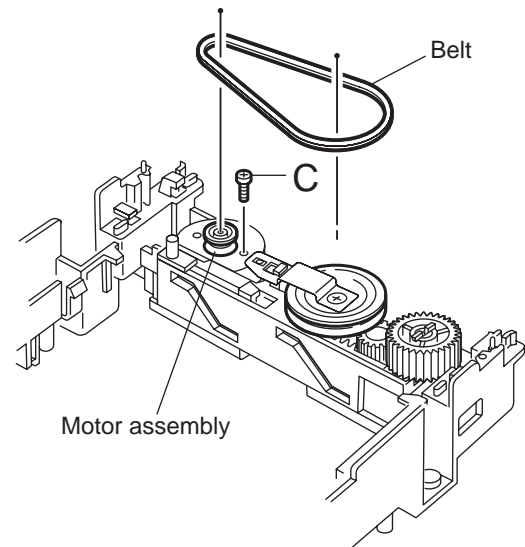

Fig.2-14
2.2.5 Removing the motor assembly (See Fig.2-14 and 2-15)